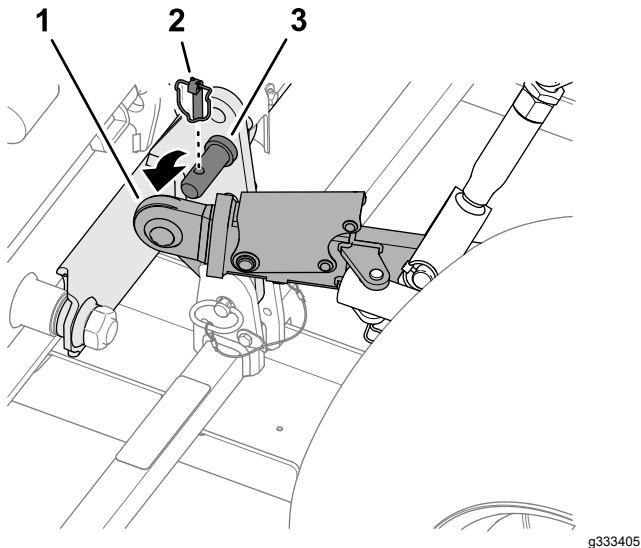

Figure 47
1. Remove the 2 lynch pins and slide the lower link arms off the hitch pins of the machine (Figure 47).